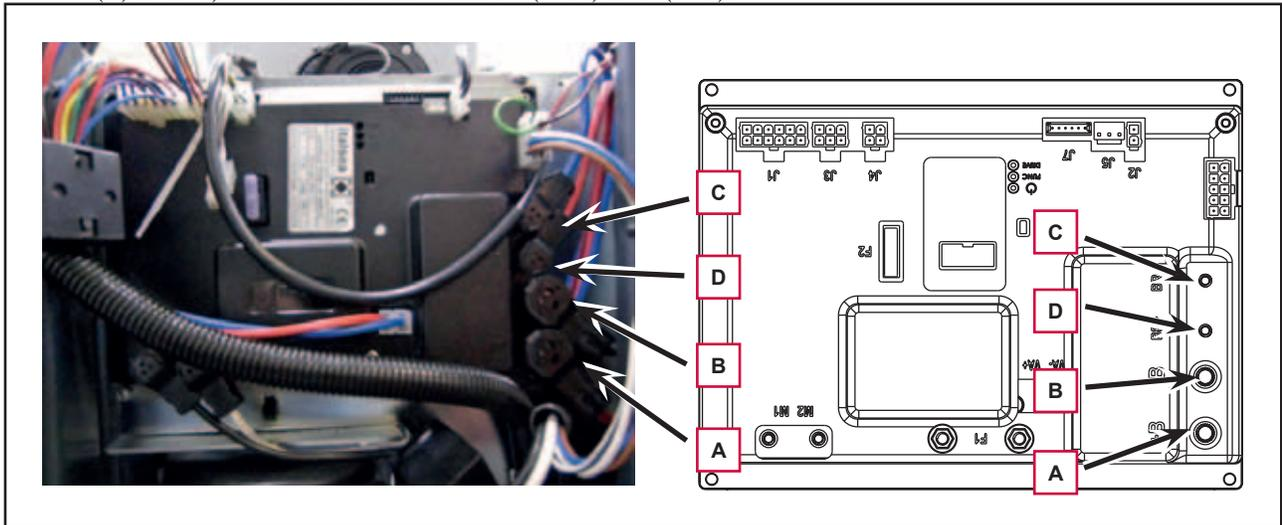

Figure 11
6. Disconnect the following connections sequentially (Figure 11):
- (A) and (B) Electronic board power supply connection (B+) and (B-).
- (C) and (D) Brush motor connection (BR+) and (BR-).